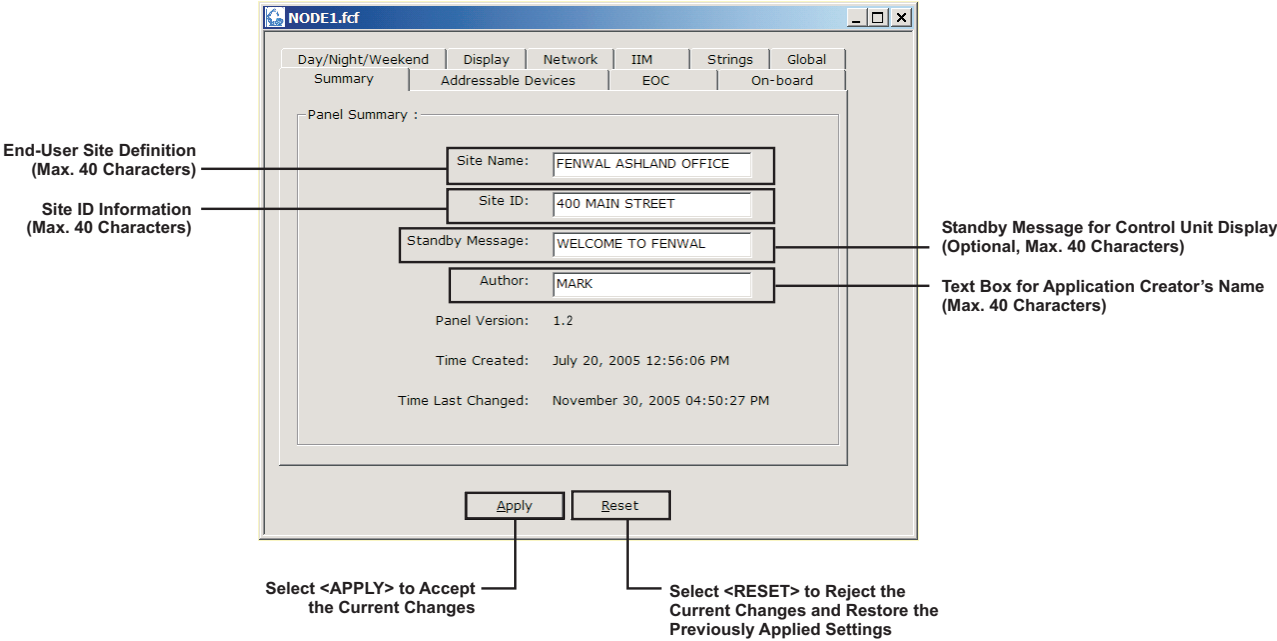

Figure 2-2. Summary Screen
- To create a new file: Select **File>New** or select the New File Icon on the toolbar (); Figure 2-2 displays.
- To open an existing file: Select **File>Open** or select the Open File Icon on the toolbar (). Select a file and click on **<Open>**; Figure 2-2 displays.